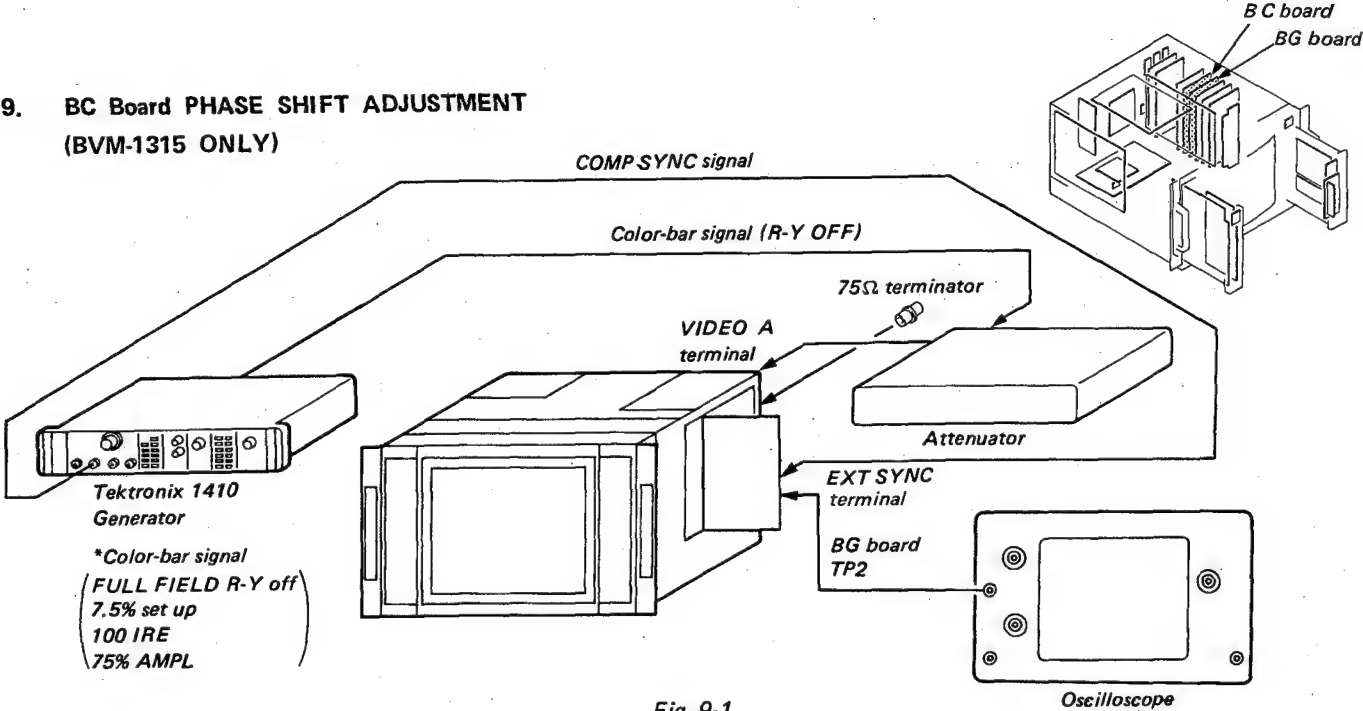

Fig. 9-1
- Complete the connection as shown in Fig. 9-1.
- INPUT selector (FRONT PANEL (R)) A (A)
- SYNC selector (FRONT PANEL (R)) EXT (EXT)